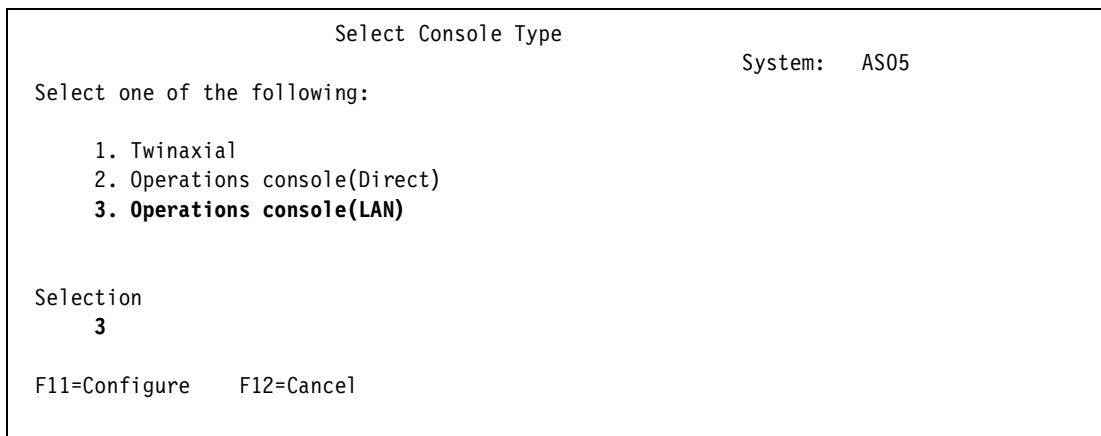

Figure 7-17 Select Console Type display
4. The display shown in Figure 7-17 appears. Select option 3 (Operations Console (LAN)).